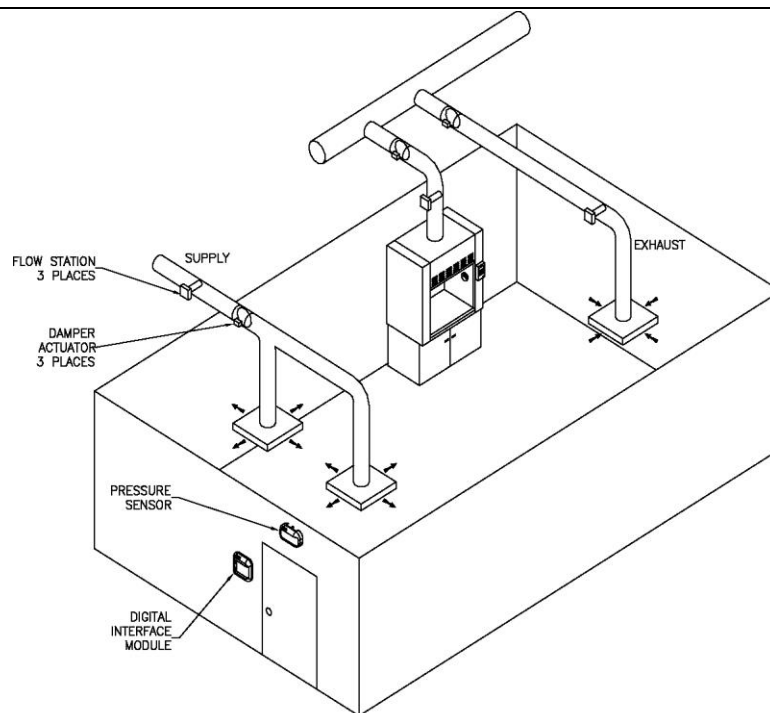

Figure 1: Typical Laboratory Installation
Figure 1 provides an overview of the various components installed. The order the components are installed is not important. The building prints will define the location of the dampers, flow stations, and pressure sensor. If no location is defined, these instructions show “typical” installation locations.
- 1) Select the mounting location of the Digital Interface Module (DIM). The construction plans normally show the mounting location. If no location is specified, then the unit is typically installed as shown in Figure 1, either in the laboratory or in the hallway.